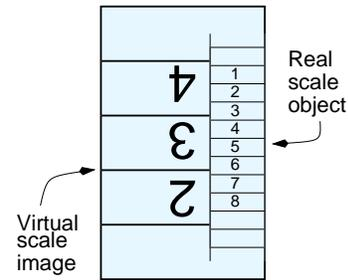

Figure 3:
- B. Adjust the telescope direction until these images superimpose (as in Fig. 3). The number of divisions on the scale as viewed directly (by eye 2) which fall in one division of the image as seen through the telescope (by eye 1) is clearly the magnifying power of the telescope.